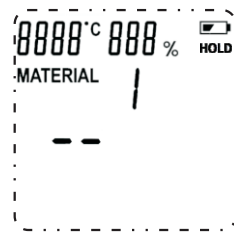

Figure 2-1-1
- When the Meter is off, press “On/Off” button to turn on the Meter. The Meter will display as in Figure 2-1-1 and shows the current temperature humidity.